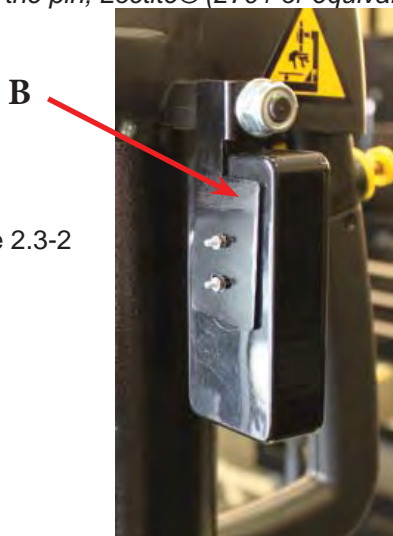

Figure 2.3-2
3. Mount the Laser Guide on the support pin and position it as shown in Figure 2.3-2. Snug but do not tighten the nuts at this point.
4. Loosen the large mounting nut "B" and the smaller nuts shown in Figure 2.3-2, and position the Laser Pointer unit so that the beam is just visible on the edge of the rim.